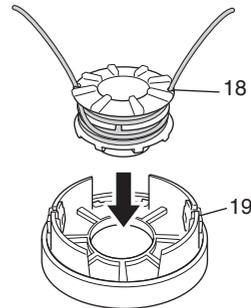

Fig. 24
(5) Insert both loose ends of the line through the cord guide (19) when placing the reel in the case. (Fig. 24)